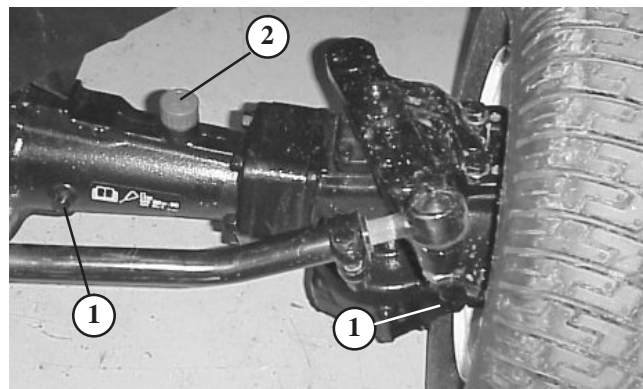

Figure 20
2. Remove the 3 check plugs from axle (Fig. 20 and 21) and make sure lubricant is up to bottom of each hole.